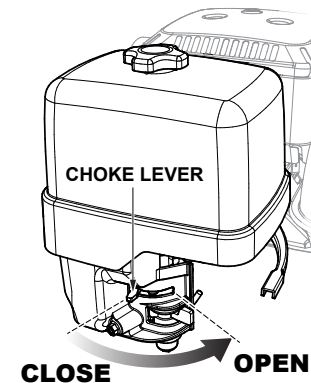

Figure 11. Engine Choke Lever (Open)
5. If starting a warm engine, or if the ambient temperature is warm, place the engine choke lever in the **OPEN** position (Figure 11).
8. If the engine has not started, repeat steps 1 through 7. If the engine has started and the choke lever was moved to the **CLOSED** position to start the engine, gradually move the choke lever to the **OPEN** position (Figure 11).